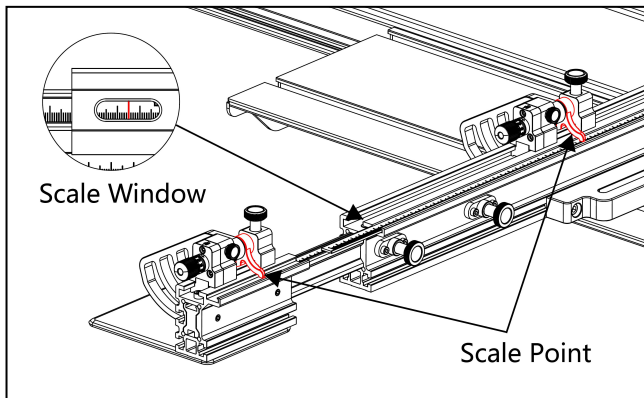

Fig. 17
13. Install the Flip Stop Assembly as shown in **Fig. 17**. Lock the flip stop at any position on the fence, measure the actual distance between the flip stop and saw blade. Then move the scale manually to ensure that the position of Scale Point or the readout of the Scale Window matches with the actual distance. (When the flip stop assembly is installed on the extension fence, read through the Scale Window.)